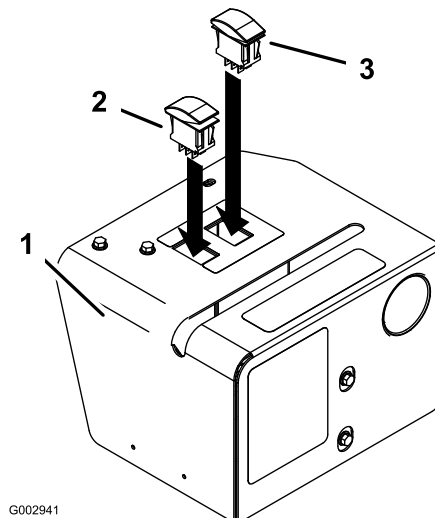

Figure 23
5. Install the two switches into the rectangular holes on the top of the cover (Figure 23). Install the momentary switch (switch that does not stay in either position when you are not pressing it) into the hole marked with the continuous variable and plus (+) and minus (-) signs.